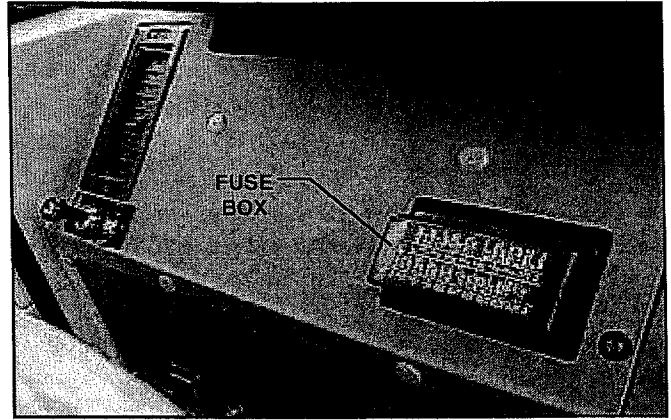

FIGURE 4.140
2. Remove Fuse Box Cover from fuse box. See Figure 4.140.